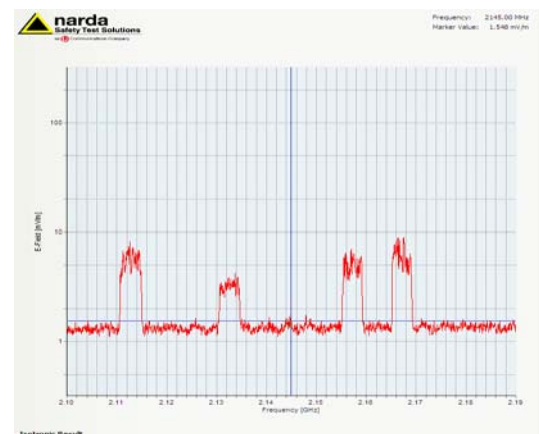

Figure 2: UMTS overview measurement
- Operating mode: **Spectrum Analysis** as in figure 2